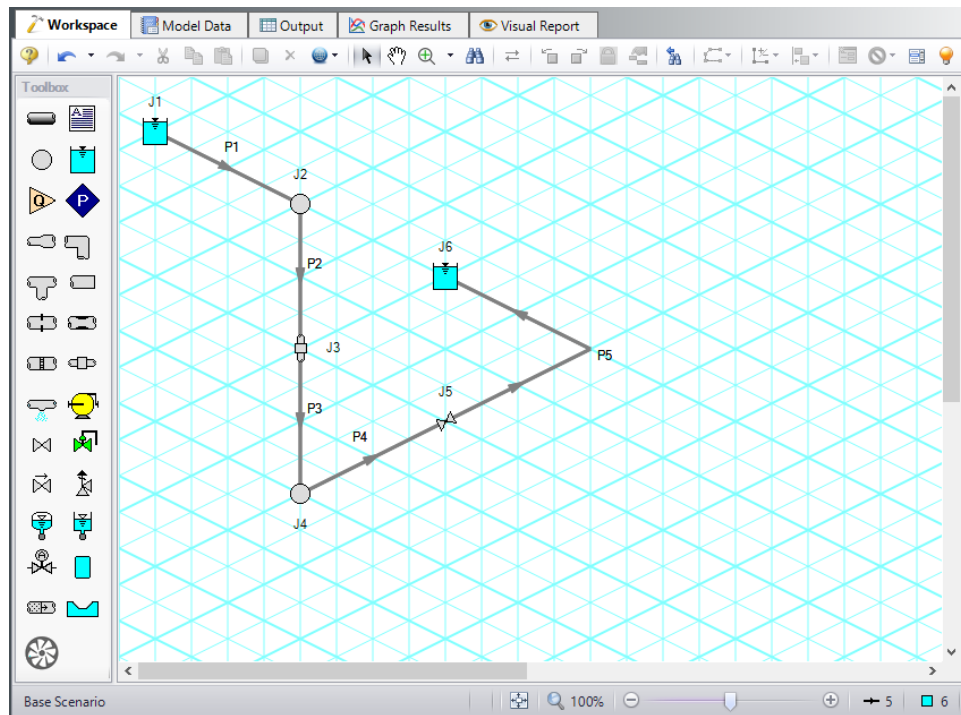

Figure 1: Layout of gravity drain system in Isometric Drawing Mode with grid shown
2. Place the junctions as shown below in Figure 1.